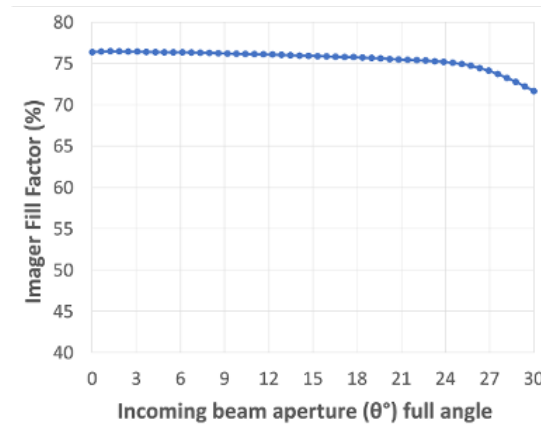
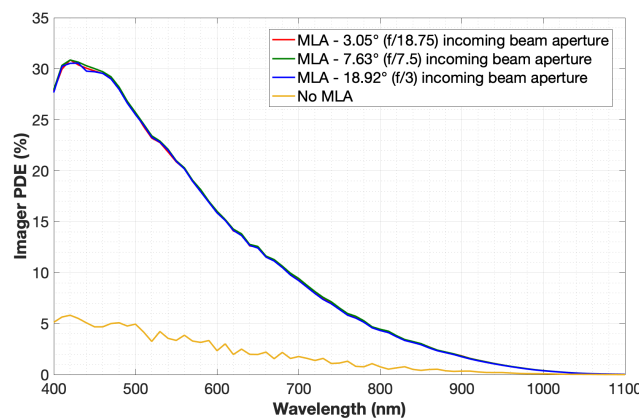

Figure 7. Imager fill factor, defined as the ratio between the pixel area and the SPAD sensor area.
Figure 8. CRONO measured ImagerPDE: without MLA and for three incoming beam apertures when with MLA.
The Imager-PDE can be calculated multiplying the SPAD-PDE by the imager fill factor, defined as the ratio between the equivalent sensing area and the square pixel area. In case of an imager without a microlens array (MLA), the fill factor (also called native fill factor in this case) is a pure geometrical calculation and, for the CRONO, equals to 12.56 %. In case of an imager with a MLA, the fill factor can be calculated by multiplying the native fill factor by the MLA Concentration Factor (CF), defined as the ratio between the collected light with lenses and the collected light without lenses. The CF actual value will depend slightly on the incoming beam wavelength and greatly on its aperture. Figure 7 shows the calculated imager fill factor for a CRONO camera having a SPAD array with MLA, as a function of the incoming beam aperture (full angle). Data in Figure 7 has been obtained averaging over three different wavelengths (400 nm, 600 nm and 800 nm). Figure 8 shows a measured Imager-PDE for a CRONO with no MLA as well as the Imager-PDE of a CRONO with MLA, at three incoming beam apertures. It is worth nothing the smoothing effect of the MLA on the PDE ringing.
where η is the SPAD photon detection efficiency (PDE) at the specific wavelength (λ), h is the Plank constant and c is the speed of light in vacuum. Exact values of the PDE can be also extrapolated from the curve shown in Figure 7. By inserting the numbers in the formula, powers values ranging from a few tens of pW, at 400 nm, to a few nW, at $\lambda = 1 \mu\text{m}$ are obtained. Supposing to have an array with MLA and to spread the light over the entire array, the maximum input power can be increased by a factor of 64 or 128, depending on the actual CRONO version.